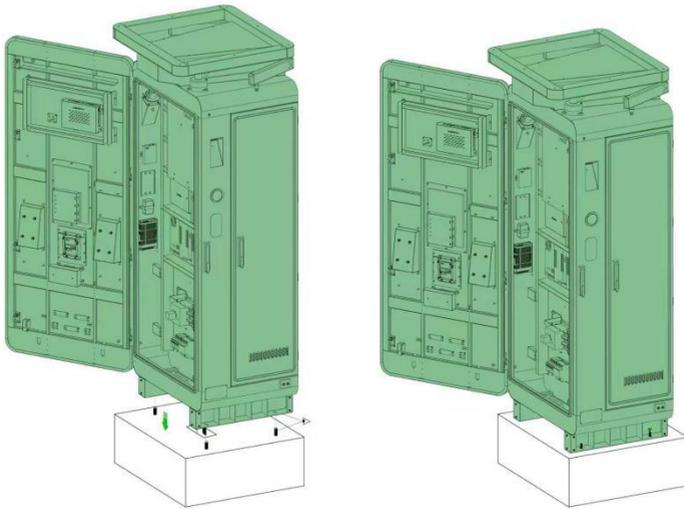

Figure 2.6.2 Position cabinet on right place
② Place charger above the cement foundation, align at installation hole, open the front door of charger and pull out the cable pre-laid from the bottom of charger via cable inlet hole. Later, slowly put down charger and pull out the remaining cable till the charger is completely placed on foundation, as shown in Figure 2.6.2
③ The reserved length of AC incoming power line cable passing through from the bottom of machine box shall be no less than 39-3/8 inches (1,000 mm).